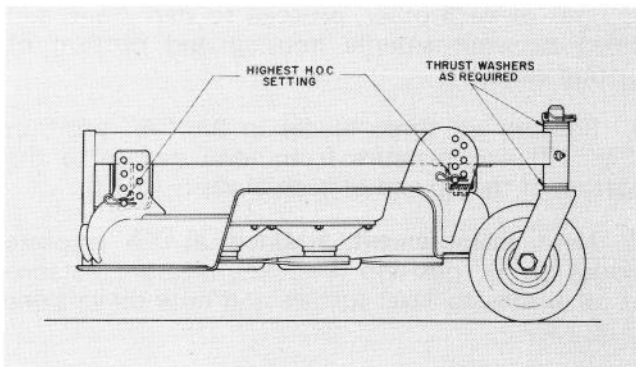

Figure 14
1. Check to make sure front height-of-cut pins are resting properly on frame cushions (Fig. 14).
2. Raise height-of-cut to the 3½" (89 mm) or 4 in. (102 mm) position (Fig. 14): refer to Adjusting Height-Of-Cut, page 6.
A. Cutting units usually operated at 1 to 2 in. (25 to 51 mm) height-of-cut should have the low side of the cutting unit raised. Remove the lynch pin securing castor wheel on low end (Fig. 14) and remove castor assembly.
B. Transfer one thrust washer from top side of castor shaft to lower side, install castor assembly and compare blade height of all blades; refer to items 3 through 7. Continue adding thrust washers if height still does not meet requirements.
C. If cutting unit is operated at 2 to 4 in. (51 to 102 mm) height-of-cut, lower the high side of cutting unit. Remove lynch pin of castor at high end of unit and remove castor assembly (Fig. 14).
D. Transfer one thrust washer from lower side of castor shaft to top side, install assembly and compare blade height of all blades; refer to items 3 through 7. Repeat procedure if height still does not meet requirements.